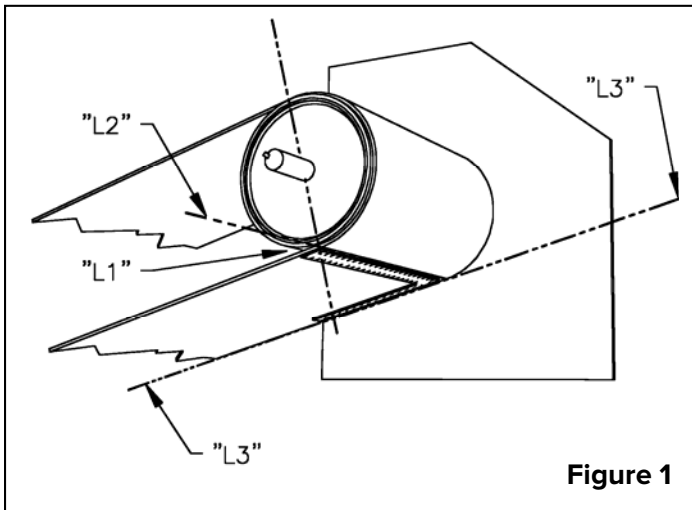
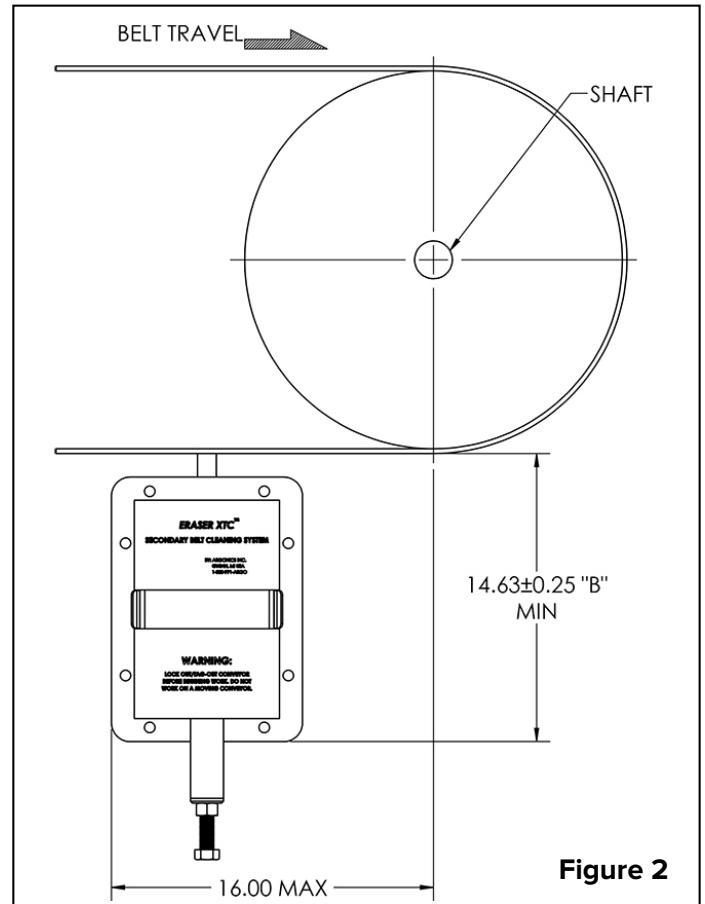

Figure 1
Figure 2
Place a straight edge or level perpendicular to the belt by using a square across the width of the belt (Figure 1). Where the belt leaves the head pulley (L1), make a mark on each side of the mounting structure or wall (L2). Repeat this process within the 16" maximum mounting area (A) shown in Figure 2 pictured right. This will be your L3 mark. Now measure perpendicular to the belt $14 \frac{5}{8}"$ (B) down from your marks and scribe a line between these two points. This line should be parallel with the belt and $14 \frac{5}{8}" \pm \frac{1}{4}"$ down. The **XTC Belt Cleaning System** can be mounted anywhere along this line. Make sure that both sides of the mounting structure wall are marked exactly the same.